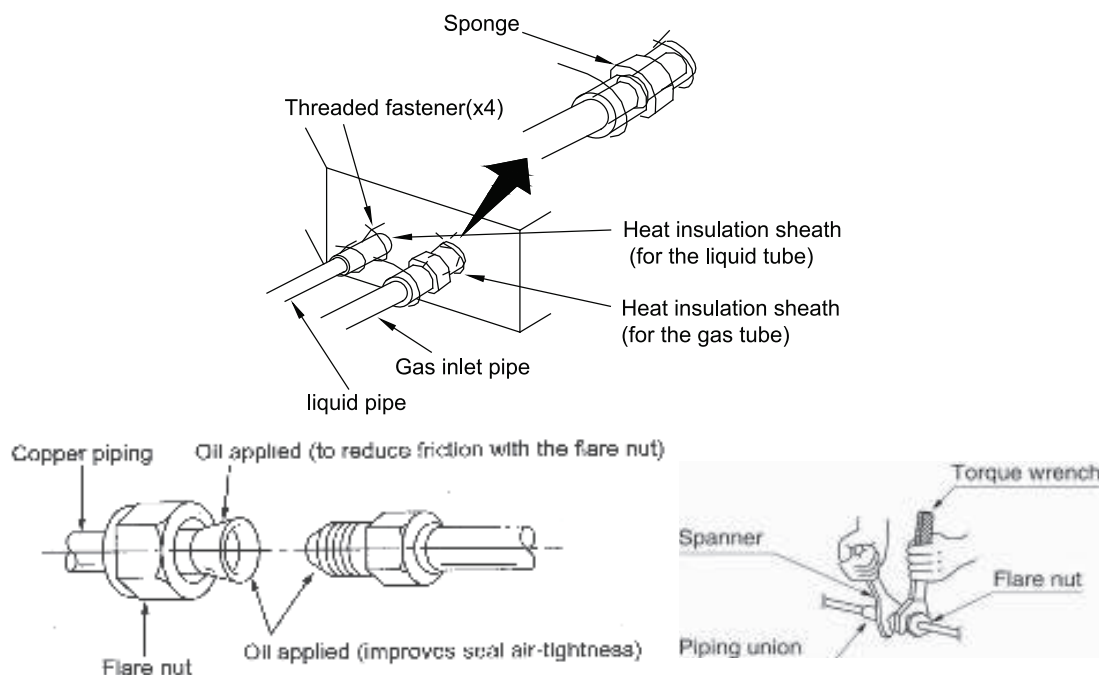

Figure 3-2-6
When connecting the pipe to the unit or removing it from the unit, please do use both the spanner and the torque wrench.( Figure 3-2-6)
Examine the connection pipe to see if it leaks, then take the treatment of heat insulation, as shown in the Figure 3-2-6.
### (1). For solid core wiring (Figure 3-2-6)
### (2). For strand wiring (Figure 3-2-6)